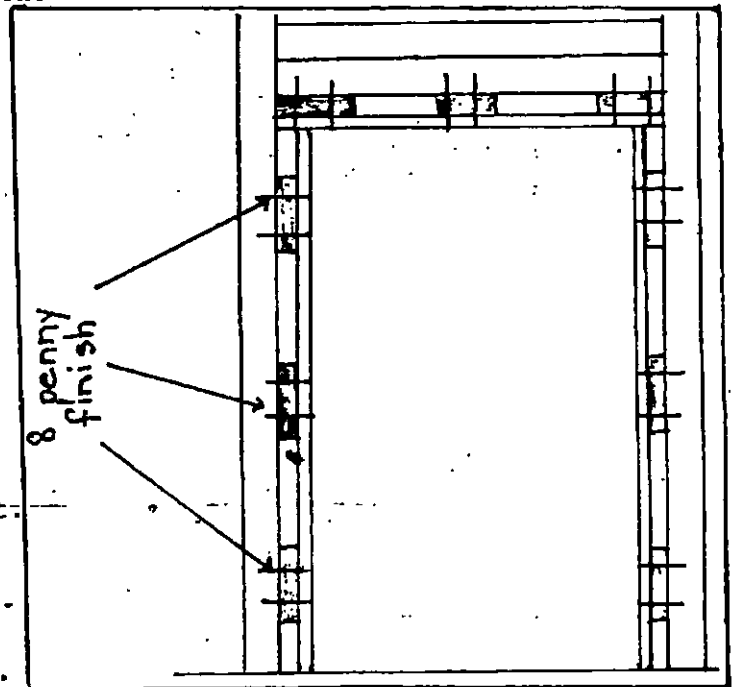

FIGURE 59
(See Fig. 59)
3. Use 8 penny finish nails, if available, to fasten the finished 1X into the 2 x 4 framing. When using blocks, nail only at the blocks. (See Fig. 59) Take care that 1 x 4 and 2 x 4 framing are flush with each other and the outer edge of wall to make nailing in the trim easier.